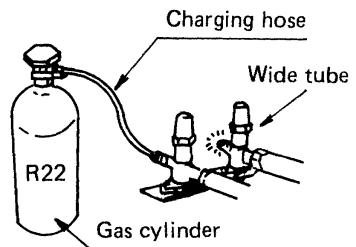

Fig. 34
- a) Connect refrigerant charging cylinder to narrow tube service valve, and open the valve of the charging cylinder. Fig. 34